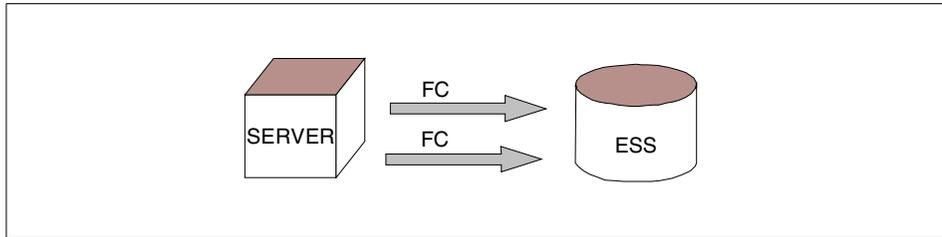

Figure 48. Multipath storage to server connection, FC only
5. Remove the disk attachment to the second SCSI port on the ESS and assign the disks to the WWPN of the second Fibre Channel HBA; see Figure 48.